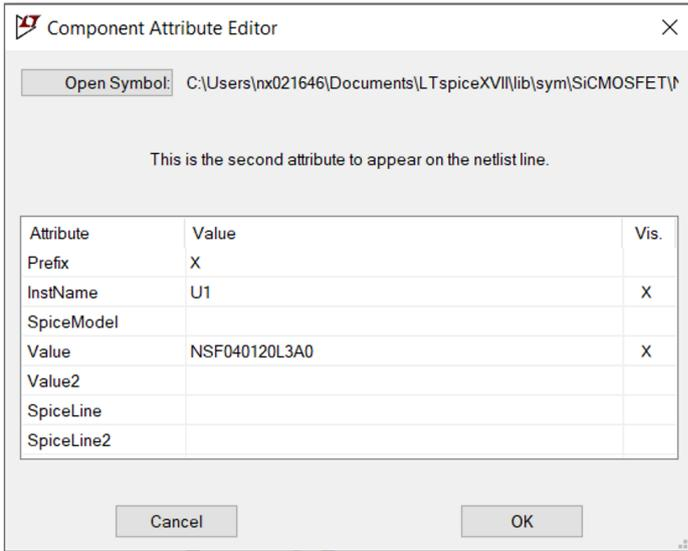

Fig. 2. Component attribute editor with the value changed to Nexperia model name, NSF040120L3A0
2. Move the mouse cursor on the placed symbol and right click on it. It opens the 'Component Attribute Editor' window. The value field in the window must be given the model name to be used it for a particular model. For example, in Fig. 2 the attribute value is given to NSF040120L3A0.